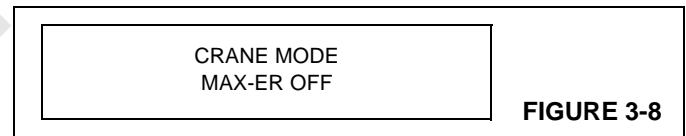

FIGURE 3-8
4. Then turn key counterclockwise and release to TURN ON and confirm MAX-ER On mode. Screen shown in Figure 3-8 appears.